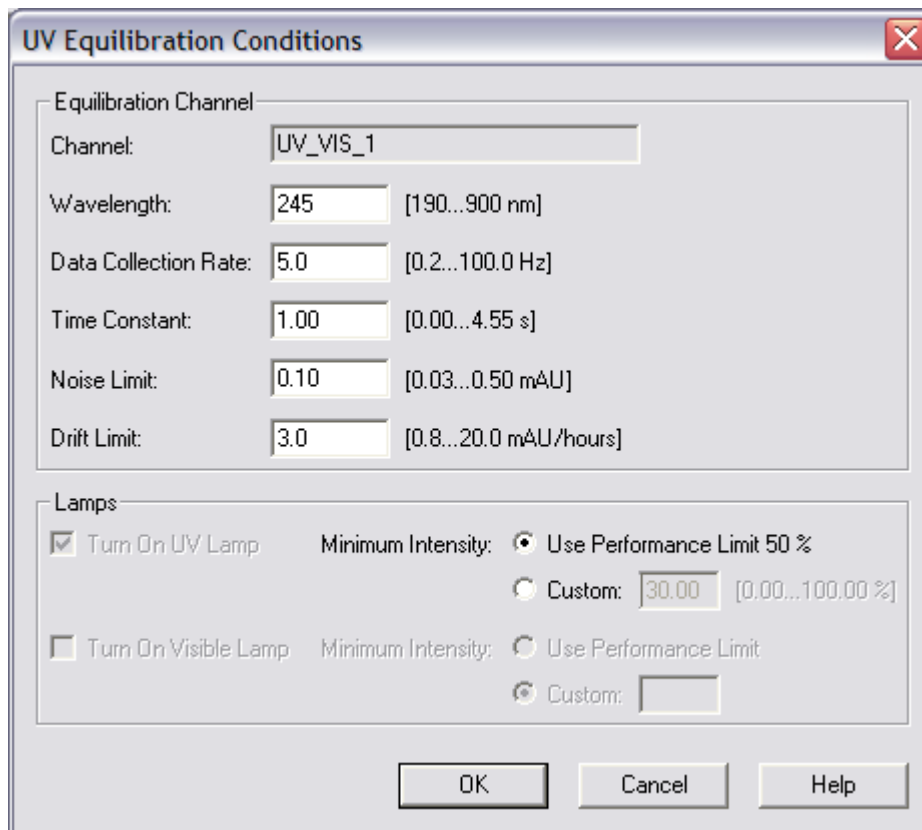

FIGURE 8-10: SmartStartup wizard – UV equilibration conditions
- The UV equilibration conditions are shown in FIGURE 8-10 and allow to specify the wavelength, data collection rate, time constant, minimum lamp intensity, and noise and drift limits.